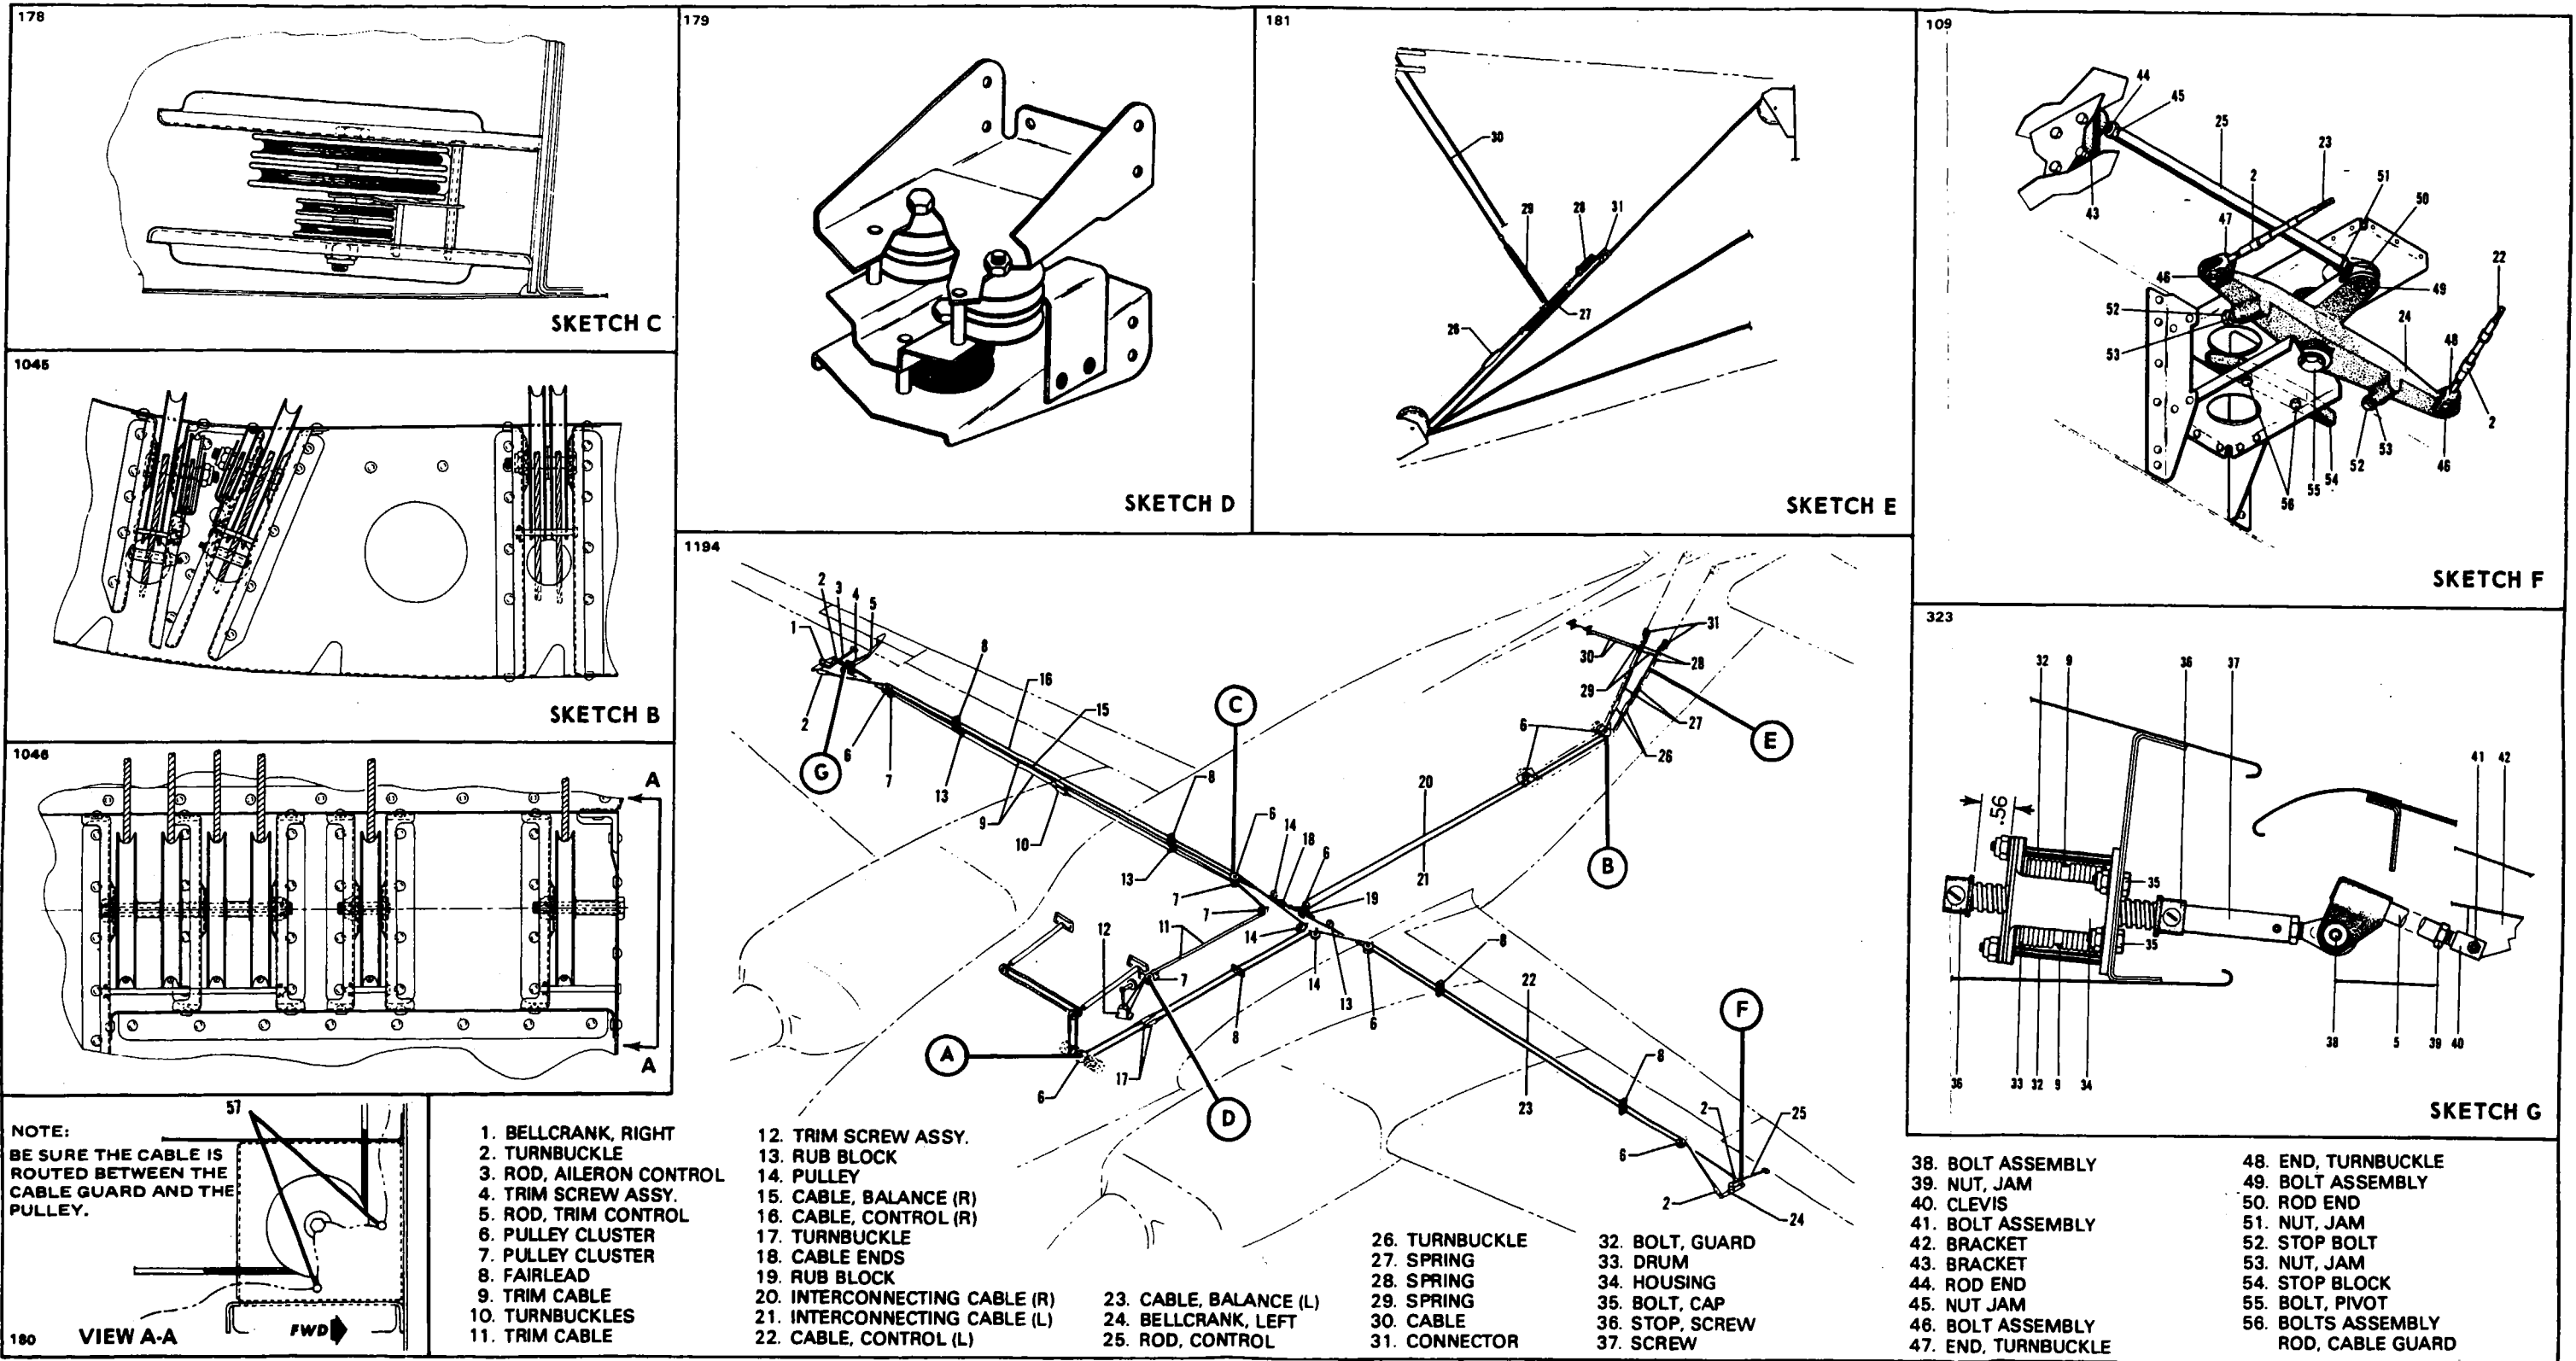

Figure 5-2. Aileron and Aileron Trim Controls
5-9. REMOVAL OF AILERON CONTROL CABLES. (Refer to Figure 5-2.)
5-10. INSTALLATION OF AILERON CONTROL CABLES. (Refer to Figure 5-2.)
5-11. RIGGING AND ADJUSTMENT OF AILERON CONTROLS. (Refer to Figure 5-2.)
5-12. REMOVAL OF AILERON BELLCRANK ASSEMBLY. (Refer to Figure 5-2.)
5-13. INSTALLATION OF AILERON BELLCRANK ASSEMBLY. (Refer to Figure 5-2.)
5-15. REMOVAL OF AILERON TRIM ASSEMBLY (Fuselage). (Refer to Figure 5-2.)
5-16. INSTALLATION OF AILERON TRIM ASSEMBLY (Fuselage). (Refer to Figure 5-2.)
- g. If the trim cables (9) from the screw assembly (4) within the wing are installed, connect the cable ends at the turnbuckles (10) at wing station 90. (If the trim assembly within the wing is not installed, pull the cables tight and block them, reaching through the access opening in the wing at station 92.50.
- l. Set cable tension with the turnbuckles (10) in the wing at station 90 per Table V-I and check rigging and adjustment per paragraph 5-19.
- 5-17. REMOVAL OF AILERON TRIM ASSEMBLY (Wing). (Refer to Figure 5-2.)
- b. Disconnect the trim control rod (5) located between the trim screw (44) and tab, at the screw.
- d. Mark one set of cable ends at station 90 to facilitate installation and disconnect the cables at the turnbuckles (10).
- g. Remove the bolts (42) that secure the screw assembly to the rear spar and remove the assembly from the wing.
- 5-18. INSTALLATION OF AILERON TRIM ASSEMBLY (Wing). (Refer to Figure 5-2.)
- b. Position the screw assembly in the wing, install the attachment bolts (42) and torque.
- c. Draw the cables through the wing and connect them at the turnbuckles (10) at station 90. (If the cables from the fuselage are not installed, block the cables at the rib at station 87.50 by reaching through the access opening at station 92.50.)
- e. Connect the control rod (5) to the trim screw (44).
- h. If the complete cable system is installed, set cable tension with the turnbuckles (10) at station 90 per Table V-I and check rigging and adjustment per paragraph 5-19.
- 5-19. RIGGING AND ADJUSTMENT OF AILERON TRIM. (Refer to Figure 5-2.)
- 1. The trim cables are evenly wrapped (centered) on their drums, both below the control pedestal and in the wing, and both cable turnbuckles (10) are located approximately at wing station 90.
- 2. That the trim drum (40) in the wing is centered between the stops of the trim screw (49).
- c. With the trim screw (44) held from rotating, turn the trim drum (40) until .560 of an inch exists between the forward screw stop and the drum housing (41), as measured along the screw. (Neutral position of the screw is at this measurement.)